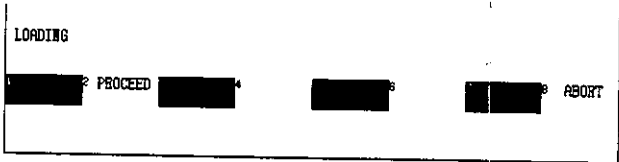

Figure 6.346
(2) If Stop is selected while loading is in progress, the process will stop temporarily and the screen shown in Figure 6.346 will be displayed.